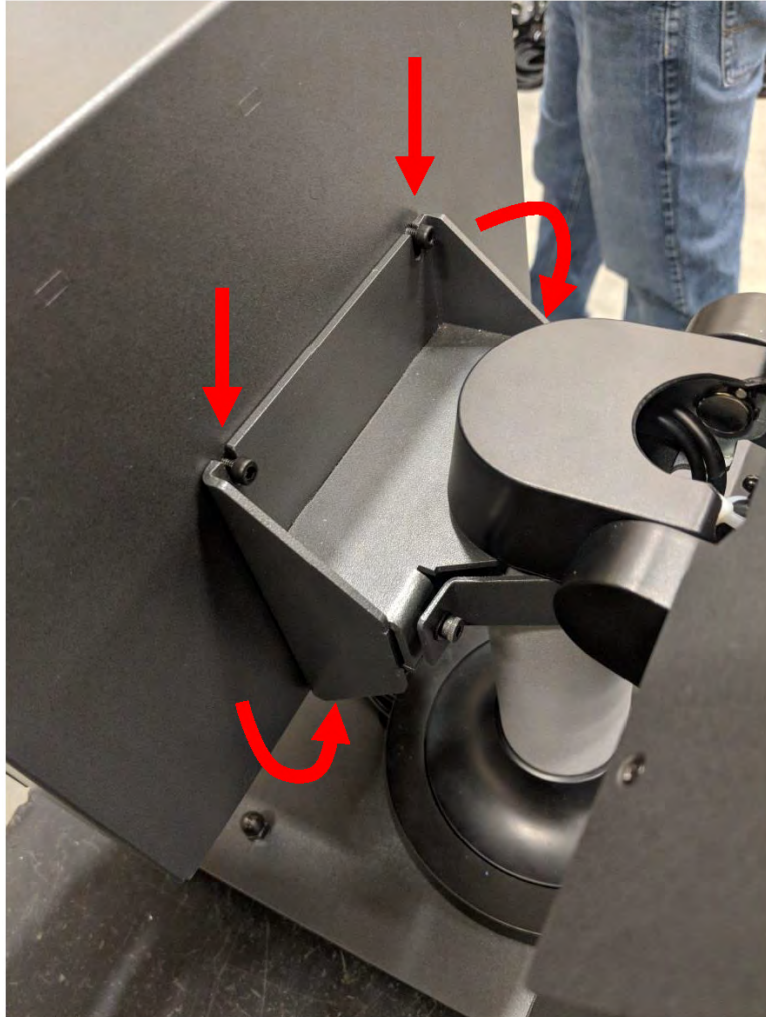

Figure 16-39 Fastener Locations
3. Locate the four fasteners holding the MCU to the mounting bracket (refer to Figure 16-39).